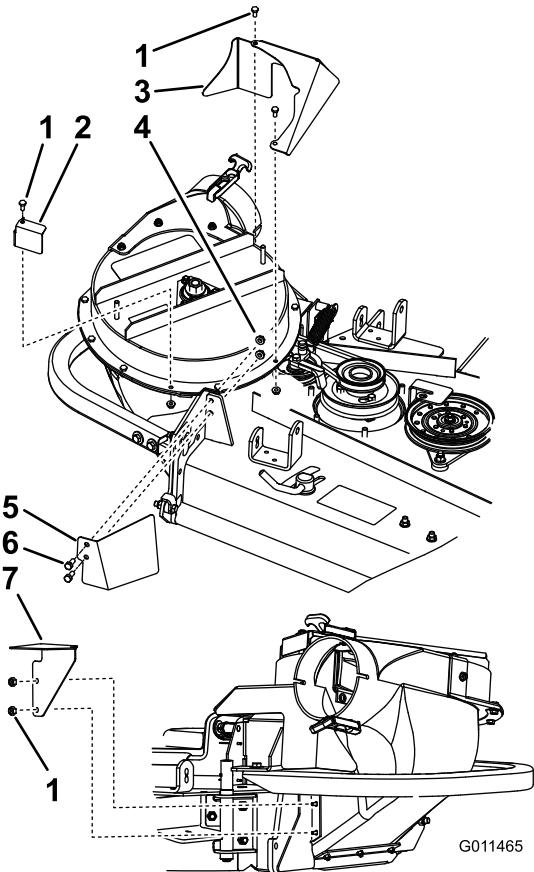

Figure 3
1. Remove the existing hardware around the blower for the left guard, lower guard and back guard (Figure 3). Save all existing hardware
2. Install the left guard with existing hardware (Figure 3).
3. Install the back guard with existing hardware (Figure 3).
4. Install the lower guard with existing hardware (Figure 3).
5. Install the front guard with a 2 bolts (5/16 x 3/4 inch) and 2 flange nuts (5/16 inch) (Figure 3).